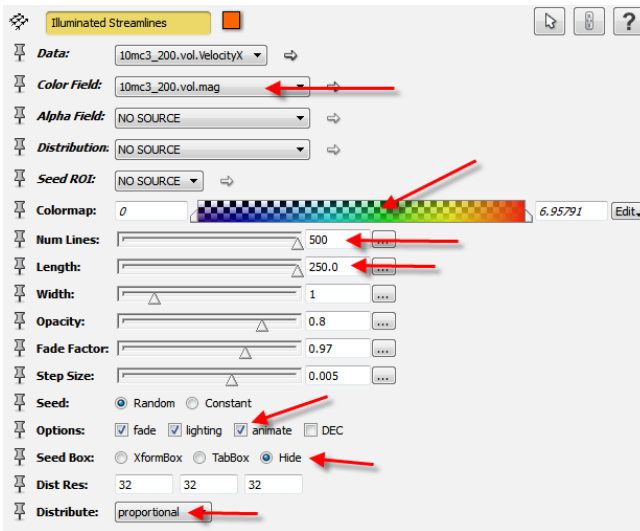

Figure 14.26: Modified parameters for *DisplayISL* module for velocity field result of absolute permeability tensor calculation.
- Right-click on `10mc3_200.vol.VelocityX` and select *Display > Illuminated Streamlines* and set its parameters as described in Figure 14.26.